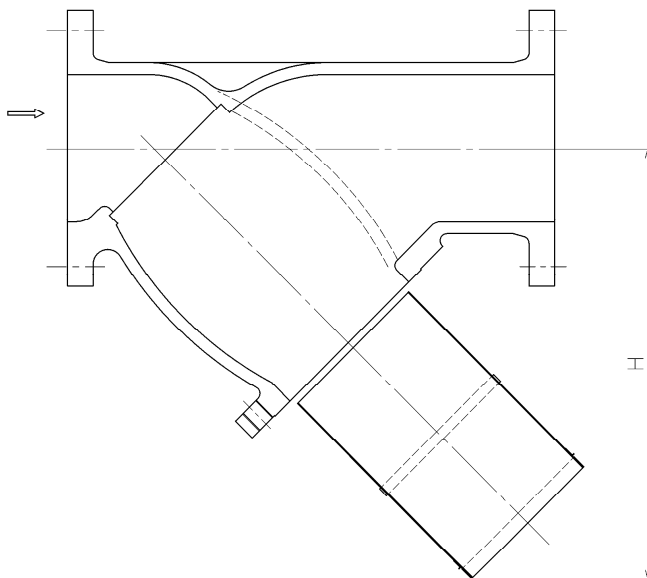

Fig.4
3. When installing, secure the space required for maintenance or inspection (cleaning of the screen) as shown in Fig. 4